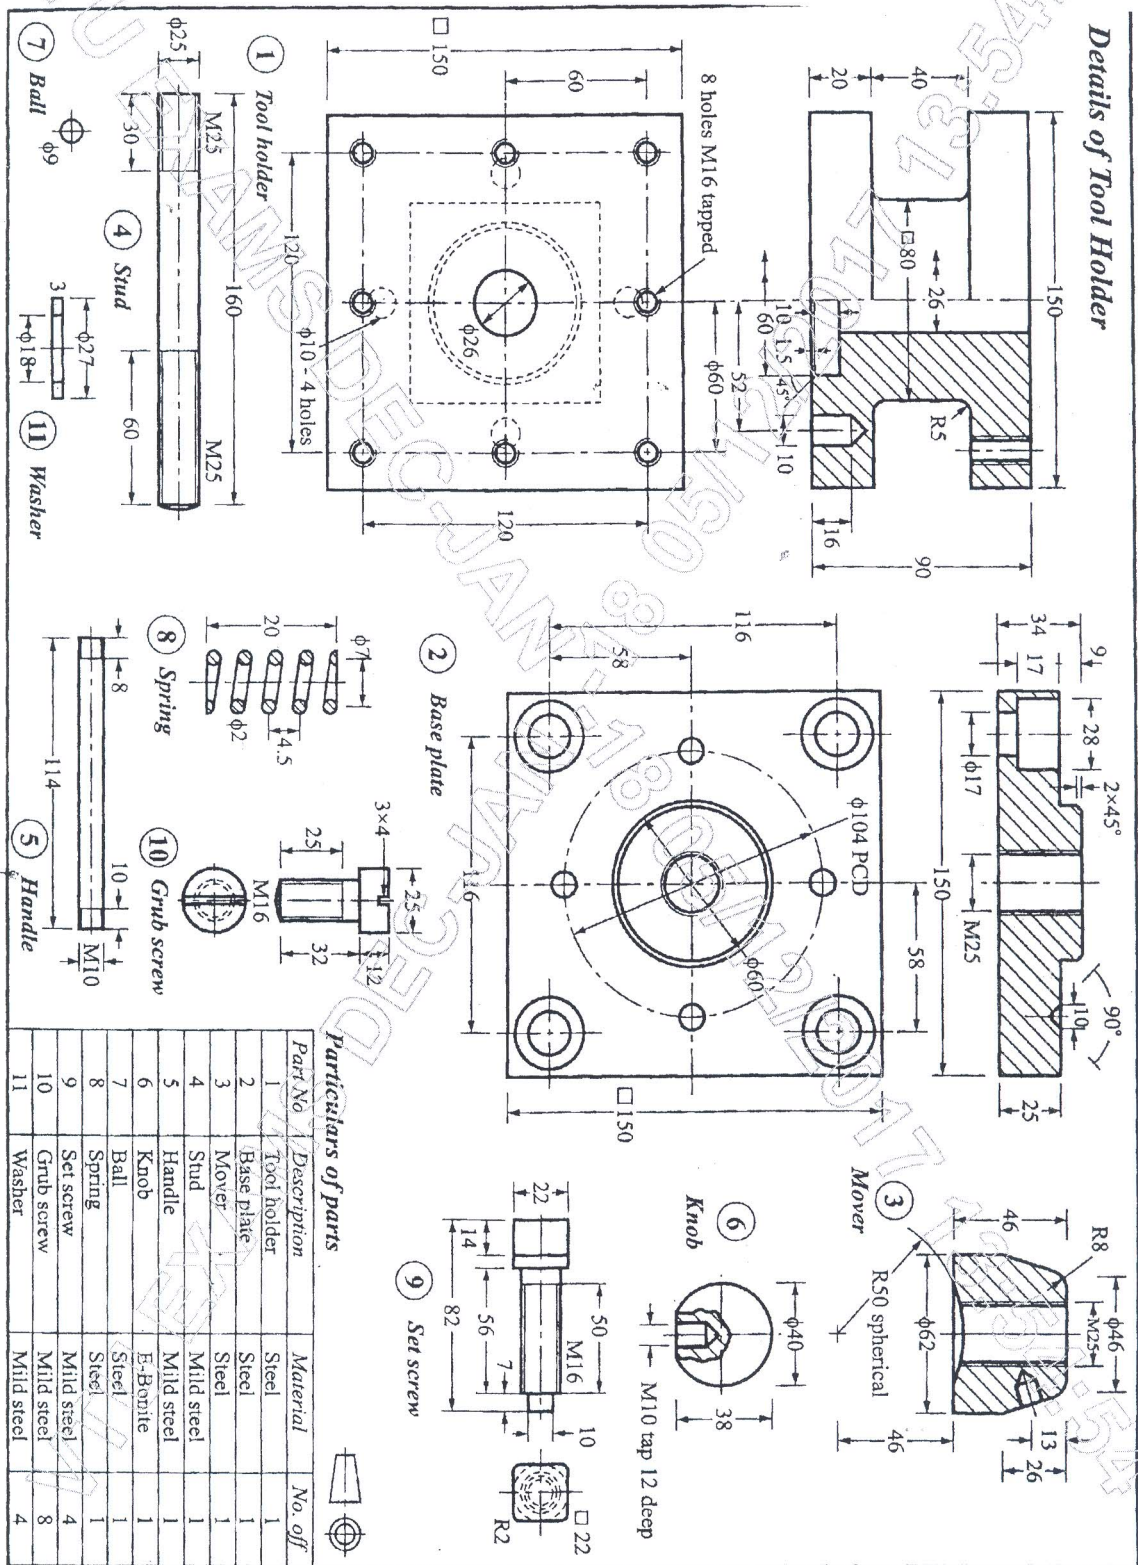

Figure 1. "SQUARE TOOL POST"
- Q.No.5** Details of "SQUARE TOOL POST" is shown in following Figure 1. Assemble the parts and draw the following views.